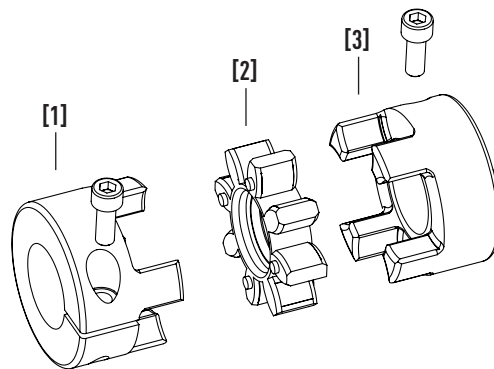

Fig. 6.29 Coupling assembly variant 1: clamping hubs with one clamping screw
- Variant 1 with one clamping screw, see Fig. 6.29